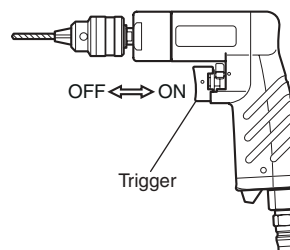

Fig. 5
4-5. Start and Stop (Fig.5)
- (1) Drill a hole before tapping.
- (2) Apply tapping paste to the tap.
- (3) Confirm that the Valve is set for normal rotation direction. (Fig.5)
- (4) Align the tap with the hole, and start tapping. If the top end of drill cannot break into the hole when the tap diameter is large, manually rotate the drill in normal rotating direction by several turns with the Trigger set on, and then start tapping.
- (5) After tapping ends, change the rotation direction, and pull out the tap while the drill is rotating reversely.